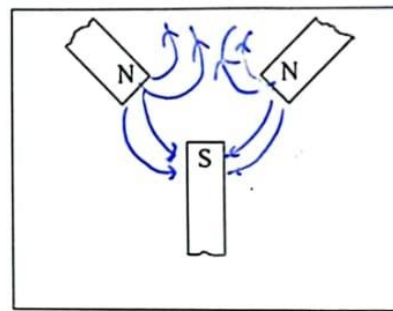
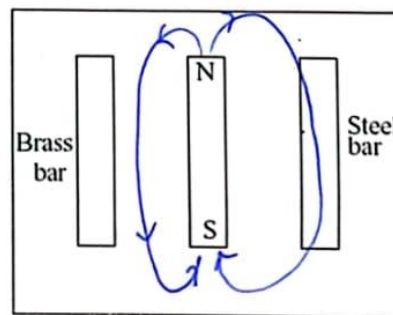

Figure 1.8
Figure 1.10
2.2.3 Repeat steps 1 and 2 for the three magnet configuration in Figure 1.8 and 1.9 and the magnet and brass bar and steel bar shown in Figure 1.10.
2. Draw the filed pattern of Figure 1.10 when the brass bar was replaced with another steel bar.